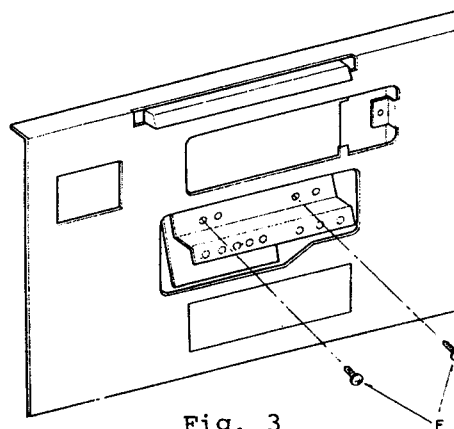

Fig. 3
- 9) Remove two set screw (marked F on Fig. 3) and the LED assembly from the front chassis.